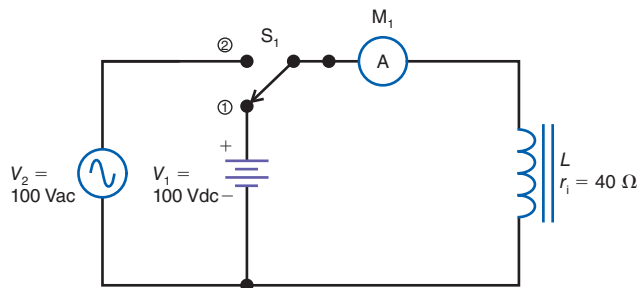

Figure 19-9
- 19.3 In Fig. 19-9, how much dc current will be indicated by the ammeter, M_1 , with S_1 in position 1?
- 19.4 In Fig. 19-9, how much inductive reactance, X_L , does the coil have with S_1 in position 1? Explain your answer.
- 19.5 In Fig. 19-9, the ammeter, M_1 , reads an ac current of 25 mA with S_1 in position 2.